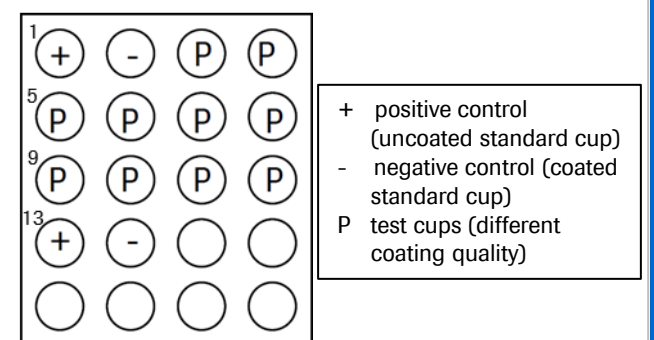

Figure 5: autosampler tray
- successive measurement as pictured in figure 5